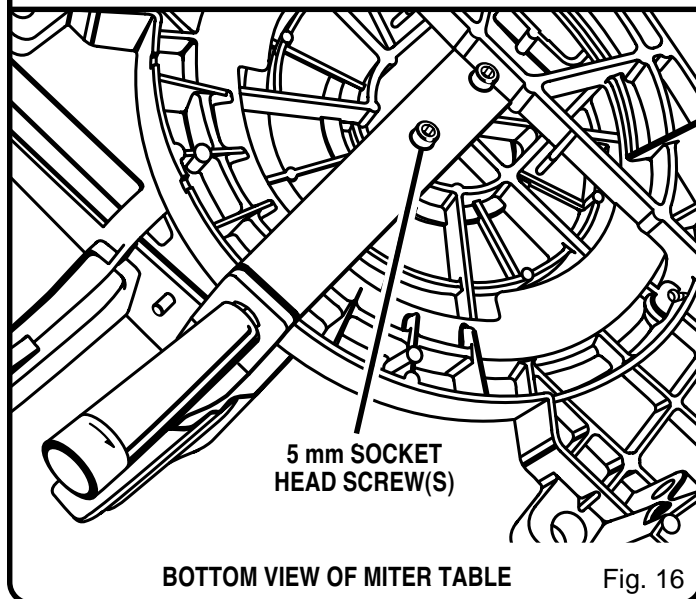

Fig. 16
- Using the 5 mm hex key (allen wrench) provided, loosen the socket head screws located under the miter table. See Figure 16. Adjust the miter table left or right until the framing square and zero clearance throat plate are parallel.